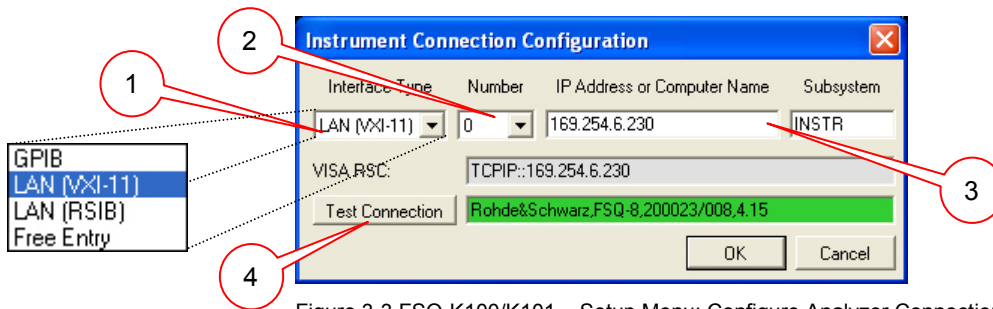

Figure 3-3 FSQ-K100/K101 – Setup Menu: Configure Analyzer Connection
- ①. Select interface type for remote connecting PC and FSQ
- ②. Select number of interface, usually “0” (if more than one GPIB or LAN interface is installed for instance the number can differ)
- ③. Depending from the selected interface type, provide GPIB or IP address respectively a complete VISA string for “Free Entry” selection
- ④. Test remote control connection with defined settings and show test result right-sided:
- GREEN highlighted: Successfully connected (Figure 3-3)